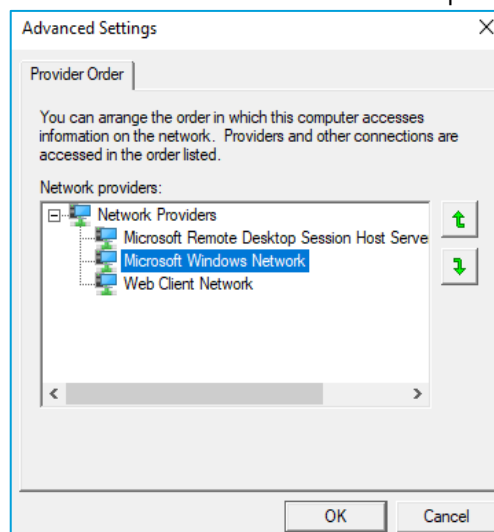

Figure 3-5: Organising Networks
- » Verify that the card used to connect to the unit is at the top of the connection list (Figure 3-5). If this is not the case, select the Network that it is attached to and use the arrows to the right of the list to move the card to the top. Press *OK*